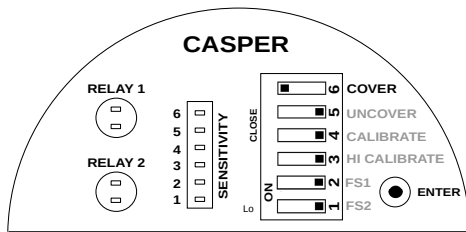

Figure 19: Cover Delay Switch Position
- Set the COVER switch to CLOSE (Opposite of OPEN for DIP switch) position as shown in Figure 19.